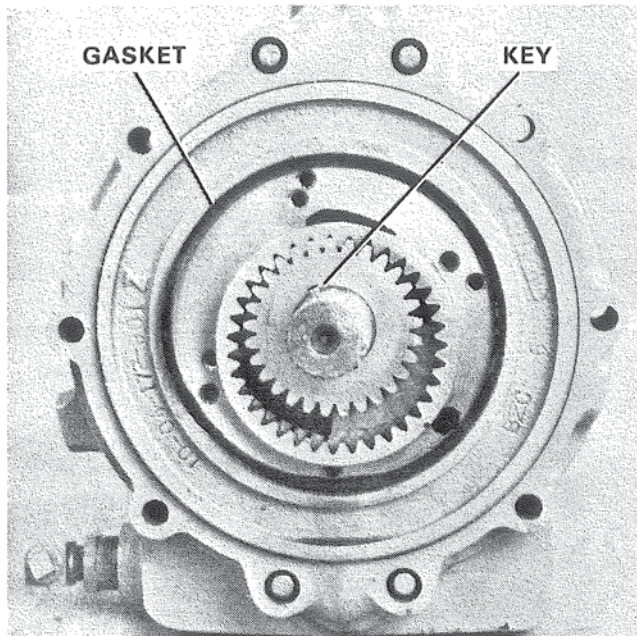

Figure 10. Removing Pump Drive Gear Key and Front Pump Gasket.
3. Remove pump drive gear, front pump gasket, and woodruff key. Figure 10.